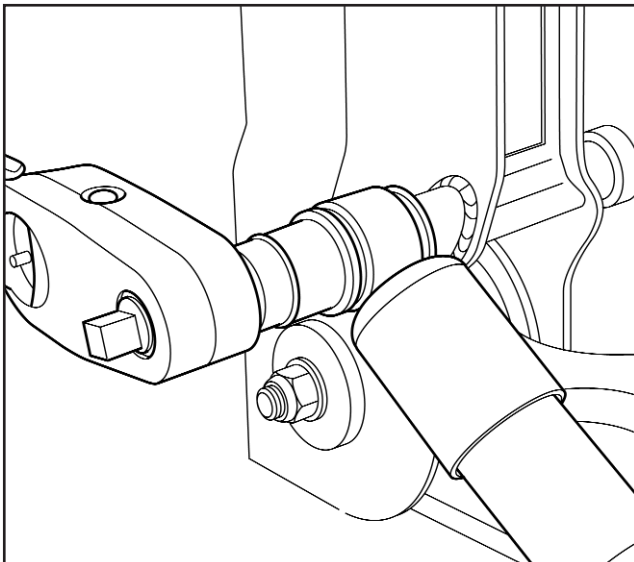

Fig 4.17
3. Using a 36mm socket and ring spanner torque the two nuts to 500 Nm (Fig 4.17).